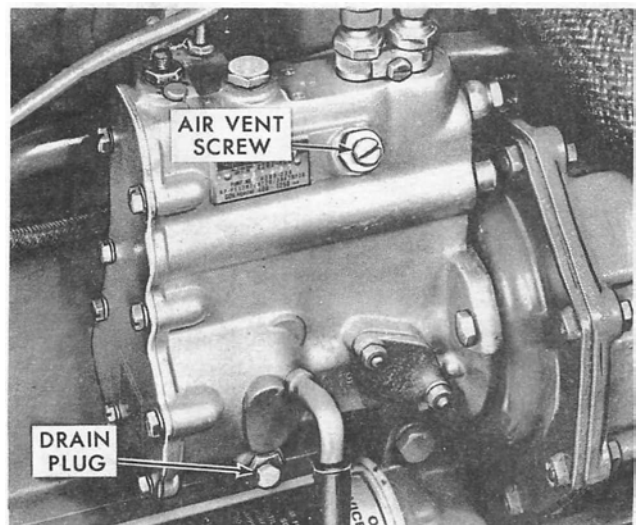

Figure 26
1. Remove the drain plug located at the bottom of the injection pump to drain the old oil. See Figure 26.
4. Loosen the fuel injection pump air vent screw, Figure 26, and bleed air out of the pump, then tighten the screw.